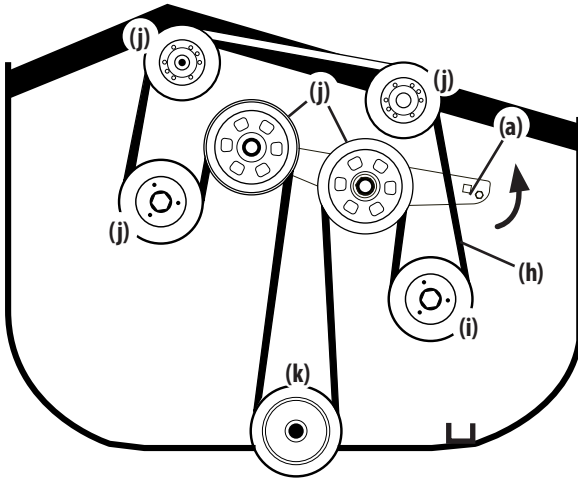

Figure 42
- Using a 1/2" (12.7 mm) drive in the idler pulley bracket (g), turn the wrench towards the front of the mower and slide the PTO drive belt (h) off the right spindle pulley (i) (Figure 42).
- While holding the idler pulley bracket, loosen the PTO deck belt from around the pulleys (j) and PTO clutch (k) and slide the belt away from the pulleys (Figure 42).